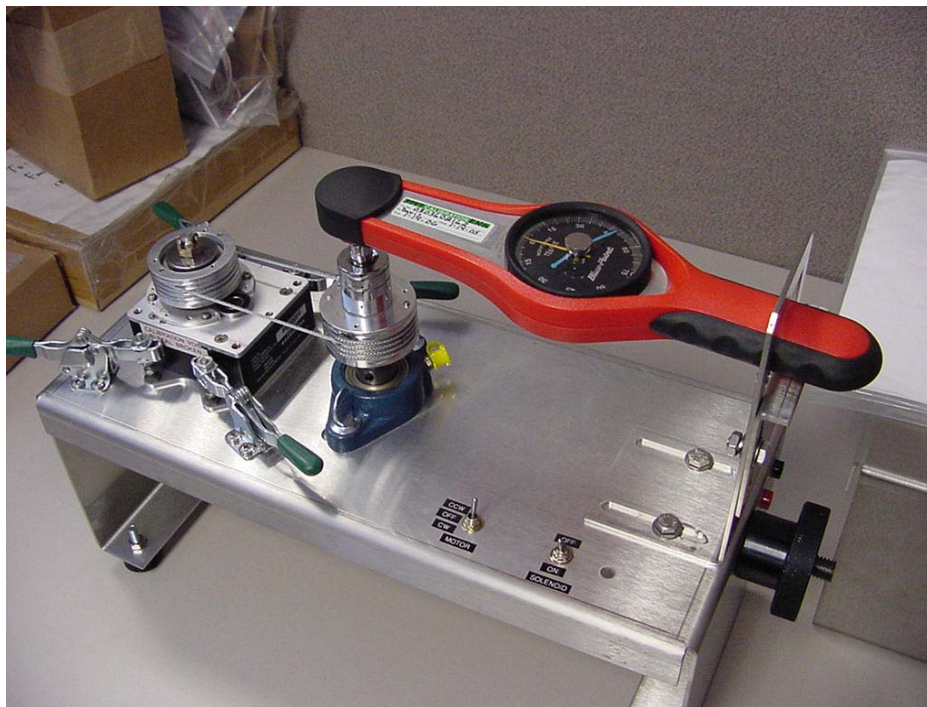

Figure 3-30. Torque Wrench Placement
- 3) Install torque wrench on top of the fixture capstan using the 13/16" socket. Make sure that the torque wrench is initially set to zero torque before placing it in the fixture. The torque wrench support should be adjusted to hold the torque wrench level. The torque wrench support bolts should be tightened sufficiently to prevent movement of the support when torque is applied. See Figure 3-30.